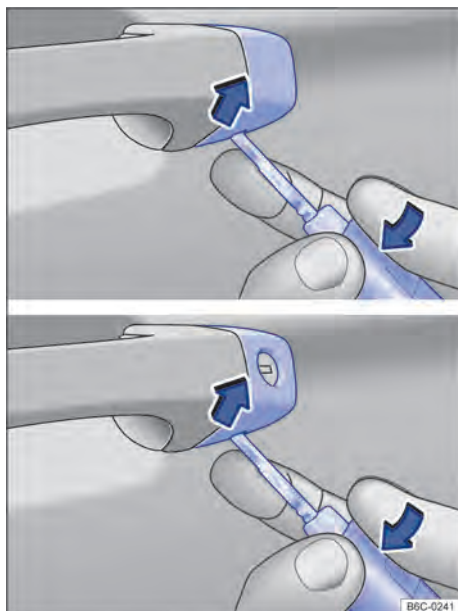

Fig. 58 Driver's door handle: remove cover.
- Lift the cover cap with the vehicle key in the direction indicated by the arrow → Fig. 58.